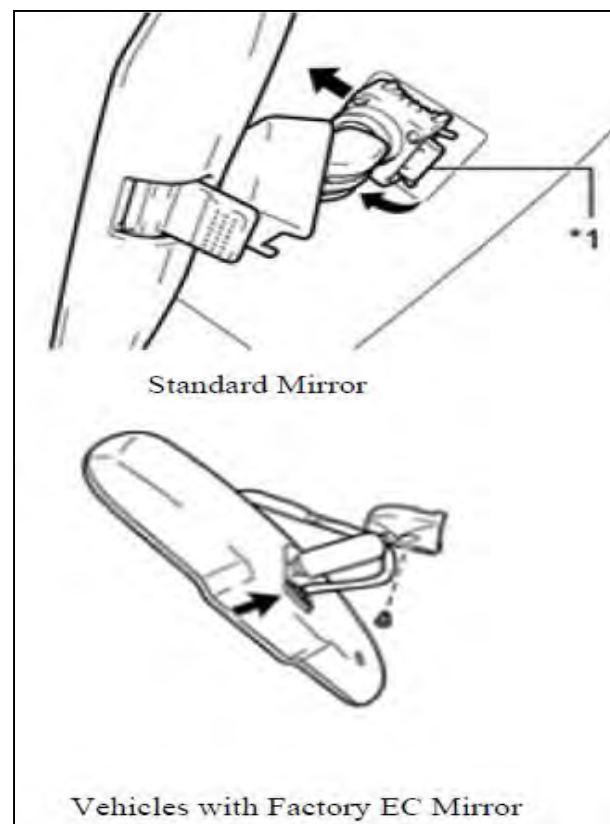

Figure 3A
3. Pull the lever, and then slide to remove the inner rear view mirror assembly. See Figure 3A. Using foam tape from the new Frameless® EC Mirror w/Compass & HomeLink® kit, secure the harness above to the headliner. See Figure 3B.
Note: When replacing factory EC mirror with the Frameless® EC Mirror w/Compass & HomeLink®. Remove the factory EC mirror wire harness cover. Using a T20 Torx bit remove screw. Slide mirror to remove. See Figure 3A.